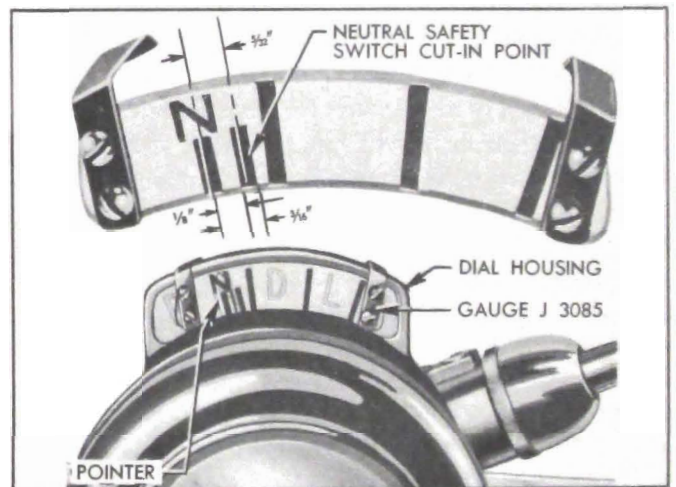

Figure 10-41—Gauge J 3085 Set for Timing the Neutral Safety Switch
4. Install Gauge J 3085 on speed ratio dial housing so that the *short* line under "N" is centered on the dial pointer. See figure 10-41.
5. Move control lever to driving (D) position, turn ignition on and depress accelerator pedal to close accelerator vacuum switch.